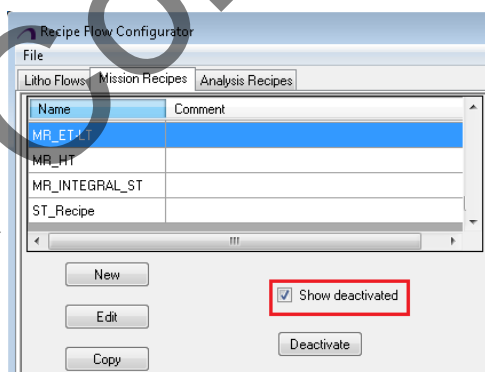

Figure 5-20 To enable the deactivated recipes
12. Enable **Show Deactivated** to view the list of deactivated recipes, as shown in Figure 5-20.